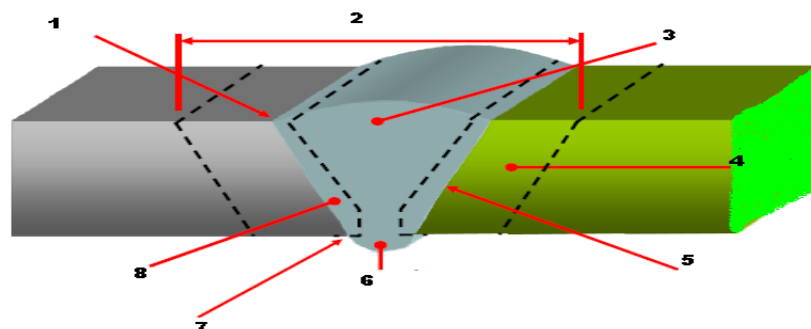

Figure 2
- (b) Identify the **type of groove weld** and write the correct welding terminology for labels number 1 to number 8 in **Figure 2**.